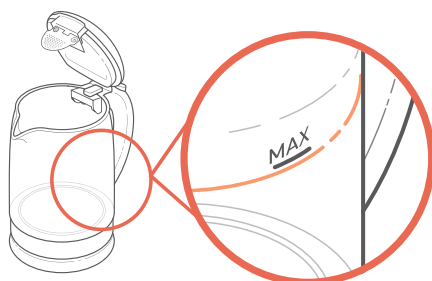

Figure 1.2
4. Fill the kettle with water to the "**MAX**" line, then close the lid. *[Figure 1.2]*